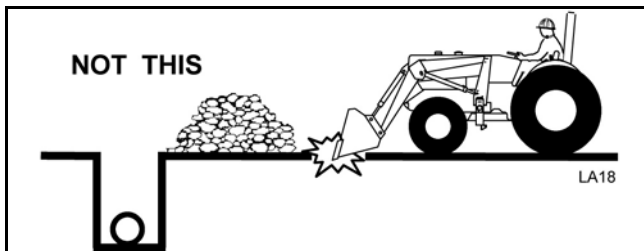

Figure 22. Incorrect Bucket Position for Backfilling
2. Do not use the bucket in the dump position for bulldozing. This method will impose severe shock loadings on the dump linkage, the bucket cylinder, and the tractor, Figure 22.